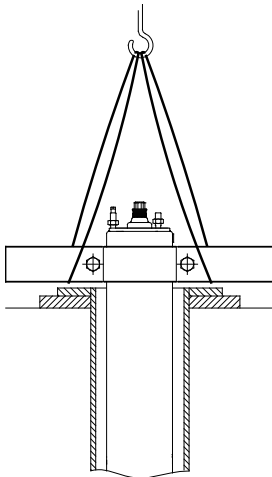

Fig. 18 Motor in vertical position
2. Place the motor in vertical position at the borehole seal, see fig. 18.